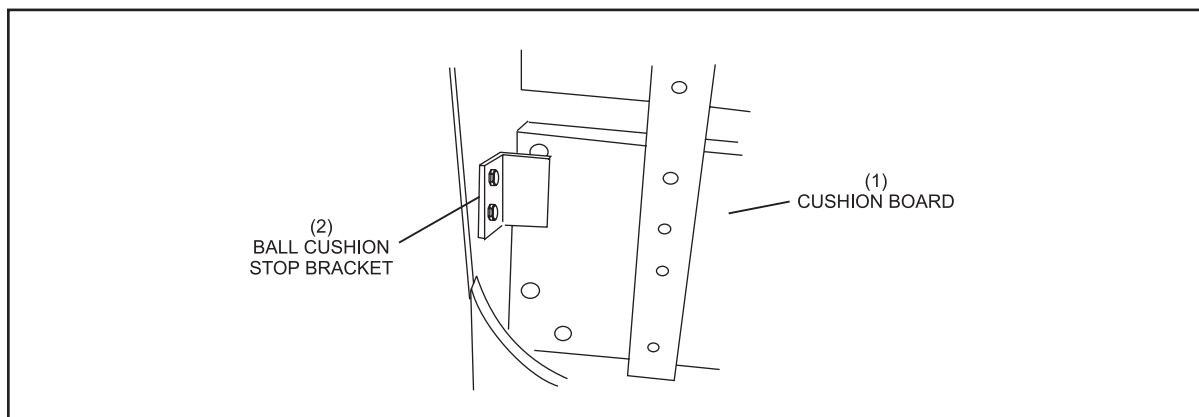

Figure 5-10. Ball Cushion Stop Bracket.
1. The ball cushion stop is attached to the ball accelerator housing. Pull the cushion back and position the stop flush against the board. Refer to *Figure 5-10*.